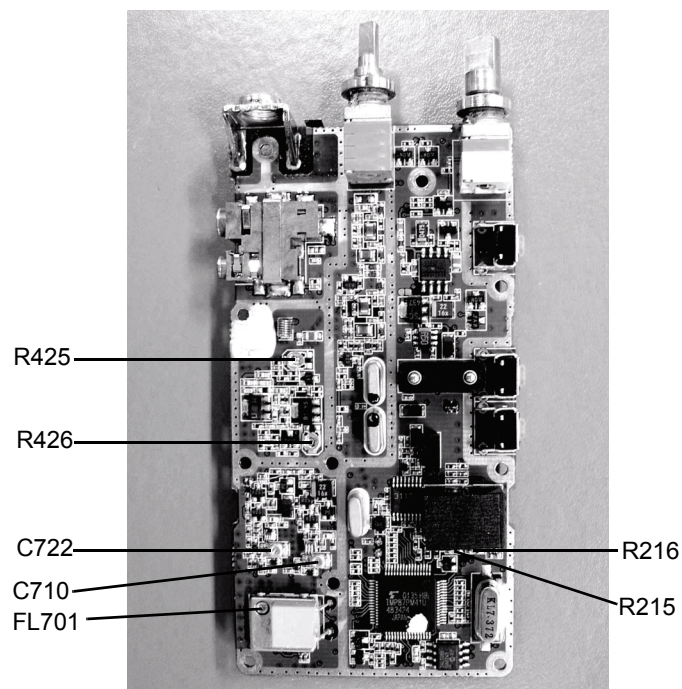

Figure 3-4 Bottom Side of PCB
3. Using the ceramic tool, adjust C710 to tune the voltage to 5.2V +/-0.1V (refer to Figure 3-4).
3. Using the ceramic tool, adjust C722 to tune the voltage below 5.0V +/-0.1V (refer to Figure 3-4).